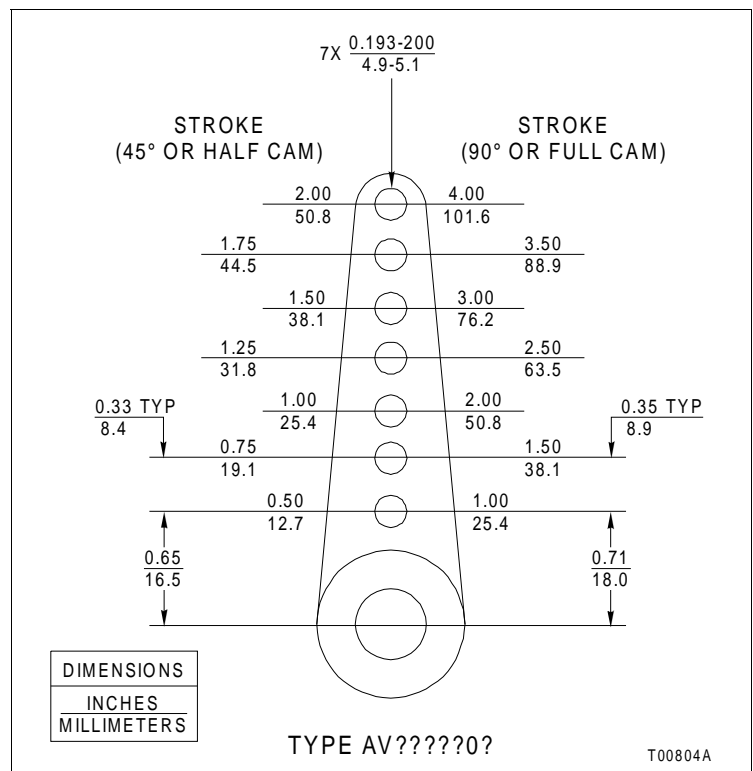

Figure B-3. Drive Arm Connections
1. Set the actuator at the 0 position. Connect the adjustable linkage to the drive arm. The drive arm holes correspond to stroke length of the actuator. Refer to Figure B-3 for the stroke length for each drive arm hole.